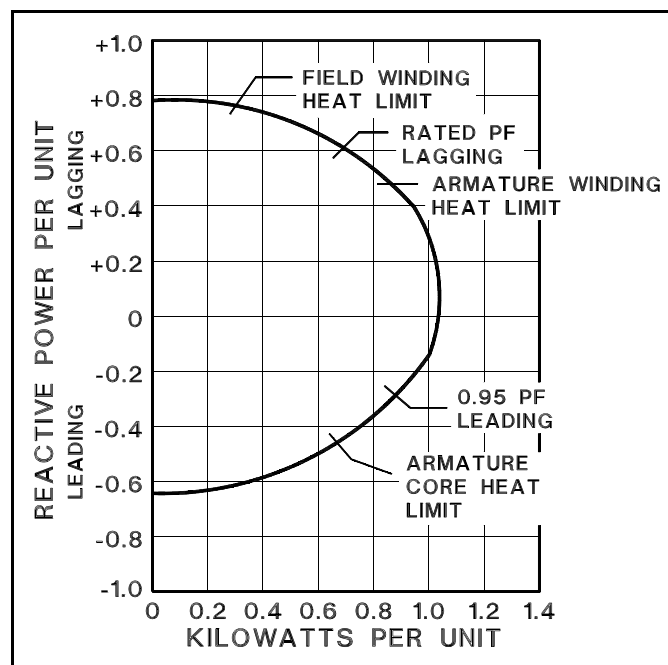

Figure 1-1. Typical Generator Reactive Capability.
- b. The EL 200 Excitation Limiter has circular characteristic that is compatible with typical generator reactive capabilities as shown by Figure 1-1.
- a. Transformer T1 receives a 0 to 5 A signal from an external current transformer (CT) which senses the generator output current. The output of T1 is passed to the VAR and Watt detectors.
b. The VAR and Watt Detectors convert the ac inputs to dc outputs which represent (by polarity and amplitude) the VAR and Watt components of the generator output current. The output of the VAR detector passes through a tapped resistor network (Curve Selector) to the VAR Comparator. The VAR Comparator makes a comparison of the Curve Selector output with a dc reference voltage. If the leading VAR component (generator current) is higher than the reference voltage, the Comparator outputs a signal through the voltage regulator/exciter that will cause an excitation limiting and thus, prevent operation outside the limit. This VAR limiting action would normally produce a limiting threshold (Refer to Figure 1-1) that would approach being a horizontal line at the -0.4 to -0.6 per unit level. To produce the desired output curve, a Watt signal is passed through the Forward Watt Amplifier (non-linear) to the VAR Comparator. To assure proper operation, a calibration circuit is provided to set up the proper levels of operation for a wide range of input current levels.